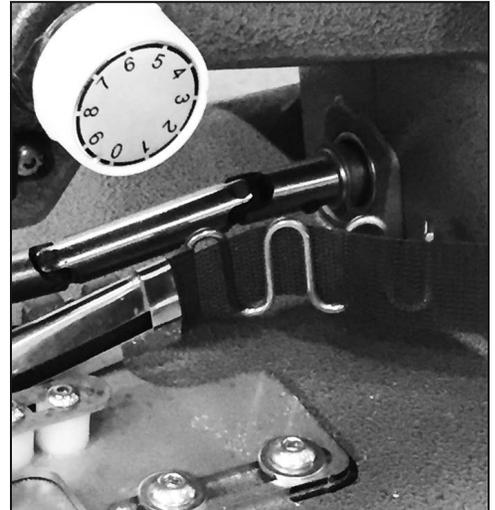

FIG. 11
- E. Threading the binding tape through only one of the tape guides (the guide closest to the opening as shown in Figure 11) is recommended. Using more than one tape guide will increase tension on the tape and could cause the carpet to curl.